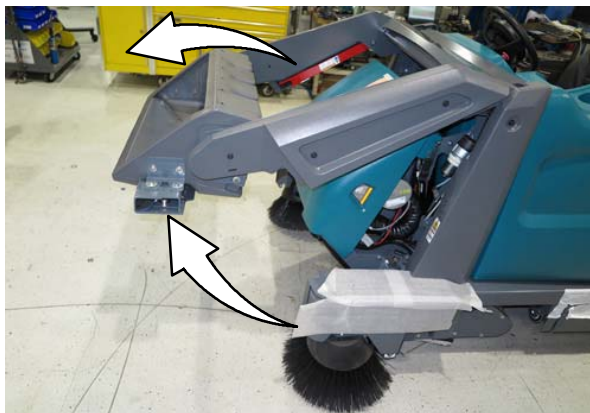

FIG. 1
2. Slightly raise the hopper and roll the hopper completely out. (Fig. 1)